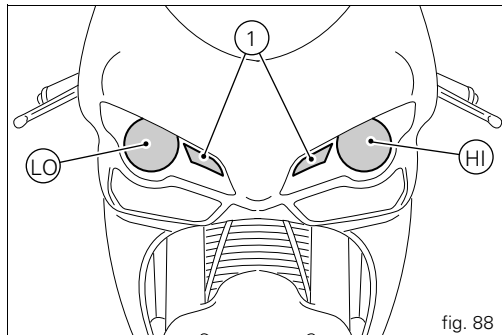

fig. 88
Before replacing a burnt-out bulb, make sure that the new bulb complies with the voltage and wattage specified in the "Wiring diagram", page 121. Always test the new bulb before refitting any parts you have removed. Shown in fig. 88 are the locations of the low beam bulb (LO), high beam bulb (HI) and parking light bulb (1).